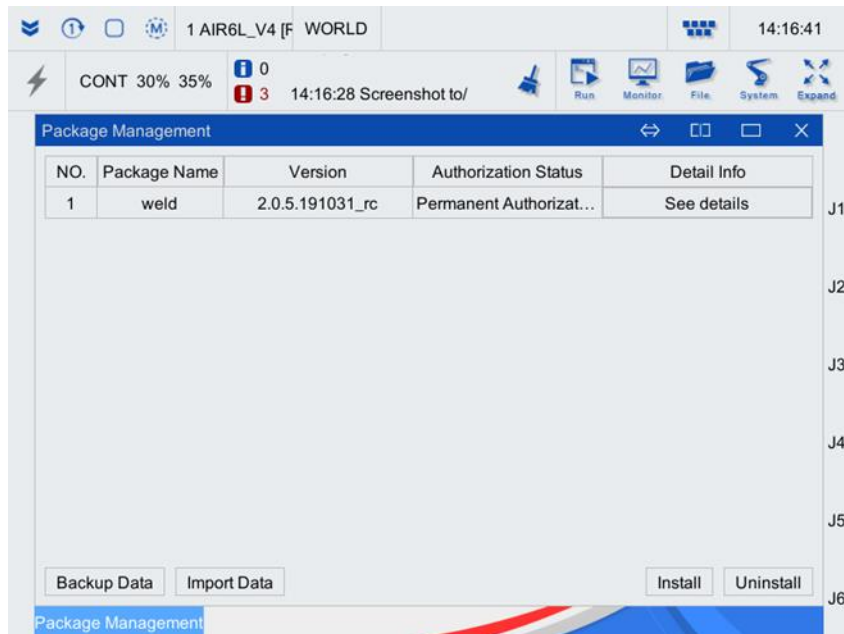

Fig. 3-8 "Feature Pack Management" box
Step 2. Click "Feature Pack Management" to pop up the feature pack management interface, as shown in Fig. 3-8.